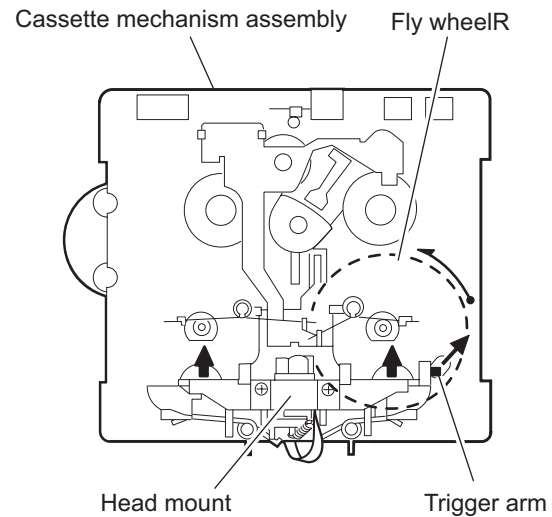

Fig.1
3.5.1 Removing the Play/Record & Clear head (See Fig.1~3)